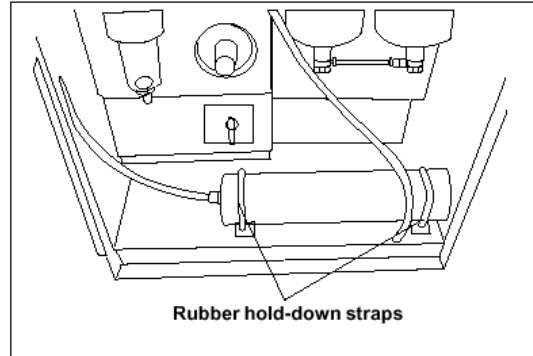

Figure 8. Air Carbon Filter
3. Disconnect the air line from the end of the filter (figure 8).